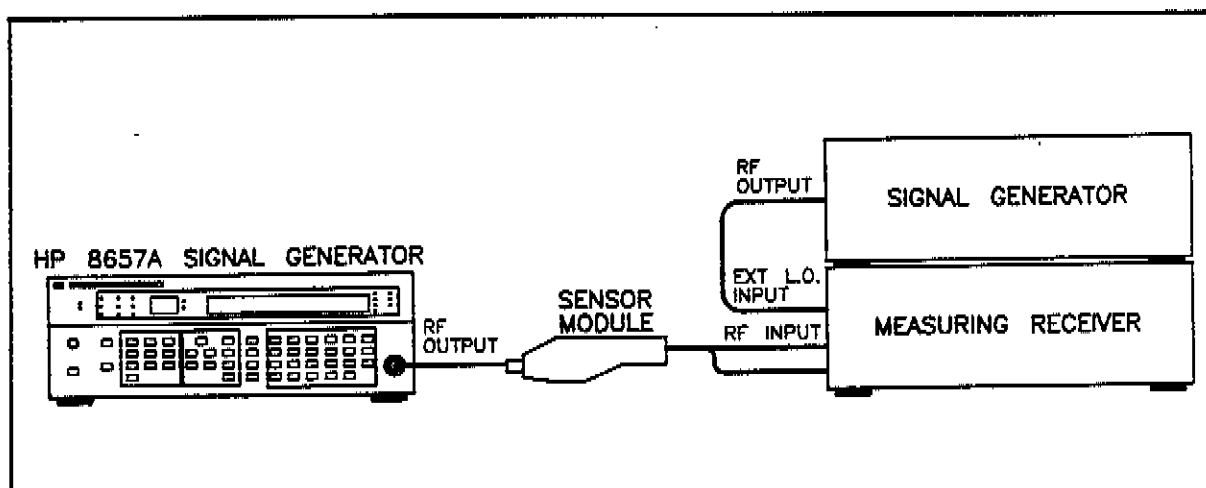

Figure 4-4a. Residual Test Setup
- 12a. Connect the instruments as shown in Figure 4-4a.